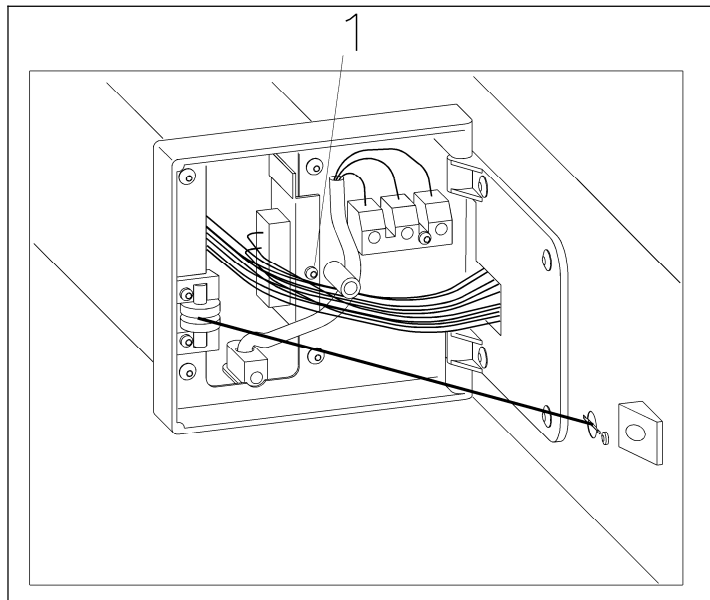

Figure 010-4: Main Electronic Screw
7. Remove the T20 screw securing the main electronic to the stand (Figure 010-4, Item 1). Slide the main electronic out of the stand.
7. Remove the T20 screw securing the main electronic to the stand (Figure 010-4, Item 1).
20. Re-install the hinge (Figure 010-4, Item 4).